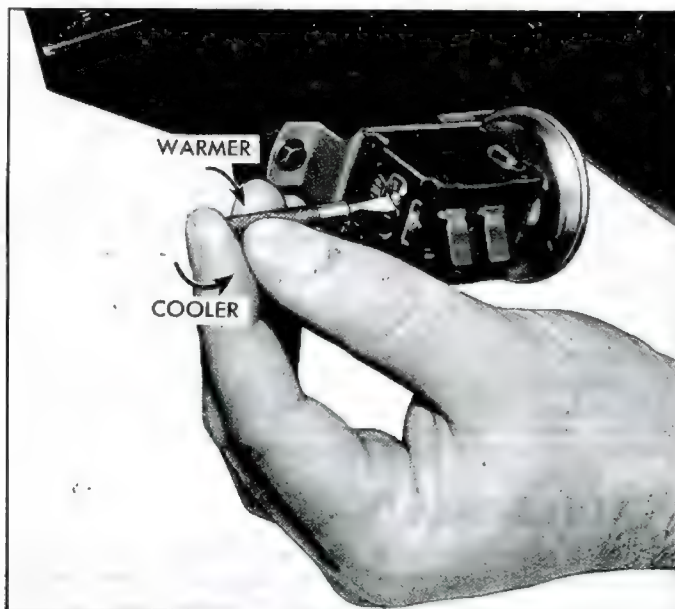

Fig. 18—Thermostatic Switch Adjustment
3. Carefully remove the fiberboard cover. Using a small screw driver, turn the adjustment screw (fig. 18) back and forth to check its performance. Use of a